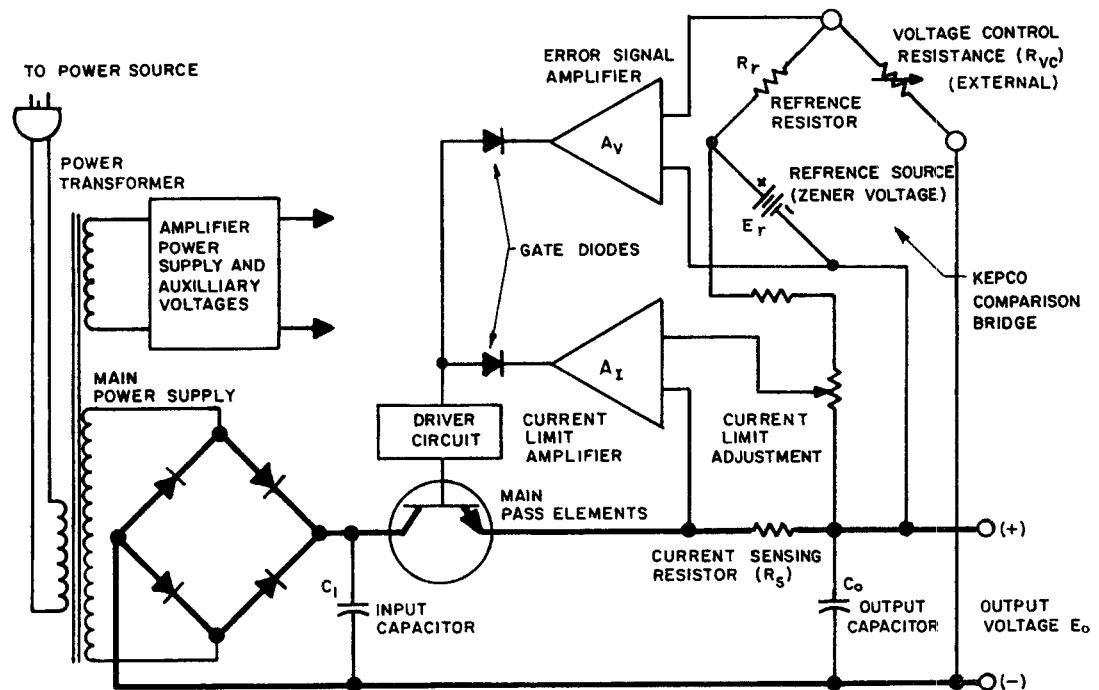

FIG. 4-1 SIMPLIFIED DIAGRAM, PAT POWER SUPPLIES.
(References in CAPITAL LETTERS refer to the nomenclature used in FIG. 4-1.)
4-1 SIMPLIFIED DIAGRAM DISCUSSION. (Refer to FIG. 4-1.)
- A-C INPUT CIRCUIT.** A-C input power is introduced through rear barrier-strip TB1, terminals (1) and (2). Terminal (3) is connected to the chassis and should always be returned to a-c ground. The fuse (F1) protects the primary of the power transformer (T201) from excessive current. T201 has two primary windings which are connected either in parallel (for 115V a-c service) or in series (for 230V a-c service).
- e) **THE COMPARISON BRIDGE.** This 4-arm electrical bridge circuit is the regulating and controlling element in many Kepco Power Supplies. In the PAT models it consists of the reference voltage E_r (CR8), the reference resistor R_r (R15 and the optional bridge current adjustment rheostat R16), the voltage control resistance R_{VC} [either the optional internal control R13 or the resistor externally applied between terminals (11)–(12) on TB1], and the output voltage E_o . As shown in FIG. 4-1, the internal reference voltage E_r in series with the reference resistance R_r is continuously compared with the output voltage E_o in series with the voltage control resistance R_{VC} . At balance ($E_{AA'} = 0$), a constant bridge current I_b flows through the bridge, keeping the error signal at bridge terminals A–A' at approximately zero volts. Any deviation in E_o caused by a-c source, load variations, or other influences will tend to change I_b in the bridge circuit and thereby produce an error signal at the bridge terminals A–A'. This error signal is then amplified by the error signal amplifier A_V and acts as a control signal for the series regulator or pass element changing the voltage drop across it in such a way as to restore the previous output voltage level.